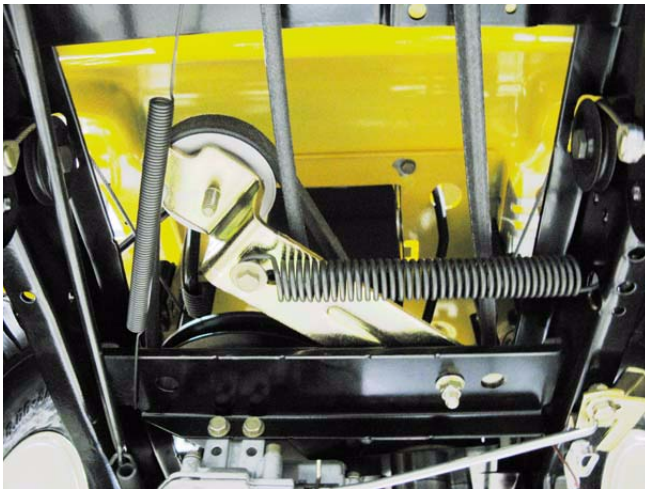

Figure 6.4
4. Check the drive belts. See Figure 6.4.